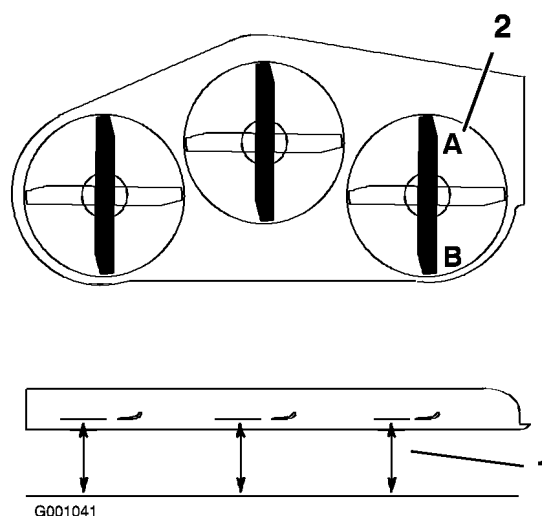

Figure 65
- Position the right blade front-to-rear (Figure 65).
- Measure the right blade at the **A** location, from a level surface to the cutting edge of the blade tip (Figure 65).
- Measure the right blade at the **B** location, from a level surface to the cutting edge of the blade tip (Figure 65).
- The mower blade should be a 1/4 to 3/8 inch (6 to 10 mm) lower at position **A** than at position **B** (Figure 65). If it is not correct, proceed to the following steps.